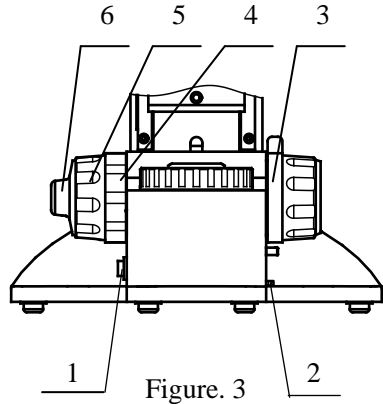

Figure. 3
1. Illumination controls, see figure 3
2. Focusing Controls, see figure 3